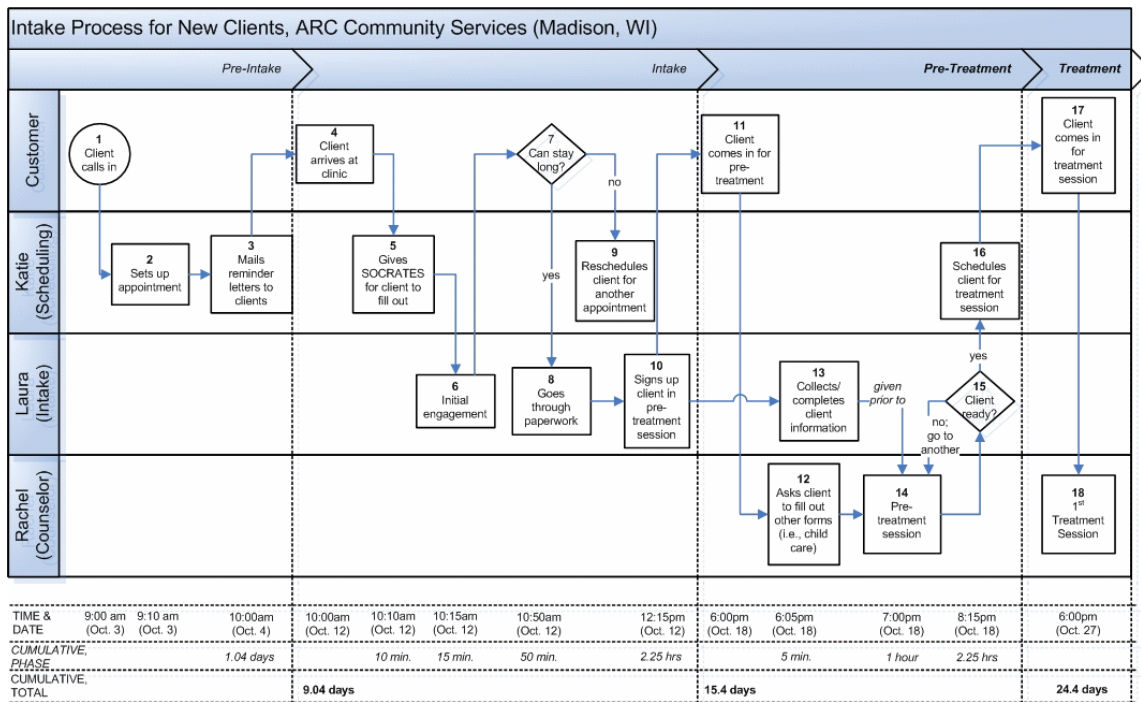

FIGURE 4: SWIM LANE DIAGRAM OF THE INTAKE PROCESS (ARC COMMUNITY SERVICES)
A swim lane diagram, sometimes called a cross-functional diagram, is a process flowchart that provides richer information on **who does what**. It can also be expanded to show times—**when** tasks are done and **how long** they take. As seen in a swim lane diagram of ARC Community Services’ intake process (FIGURE 4), the visual metaphor is a swimming pool, with each participant in the process assigned to “lanes.”
4. If the diagram is too complex, break it up into its components. As seen in FIGURE 4, the diagram indicates *phases* or *sub-processes* (i.e., pre-intake, intake, pre-treatment, treatment, etc.).